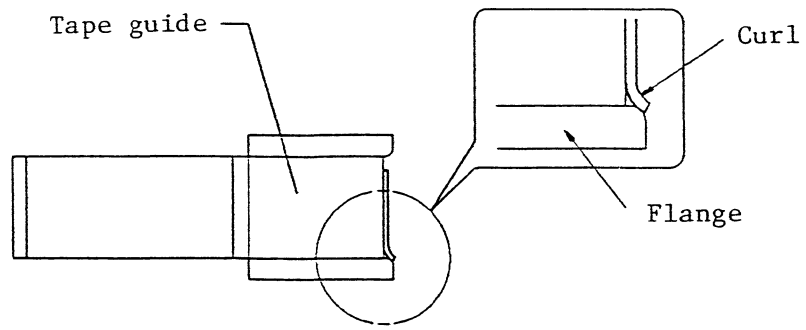

Fig.423 Check of tape winding (tape guide)
- (i) At the flange part of the tape guide on the encoder roller side, there is no tape curl in both forward and reverse directions (Fig. 423).